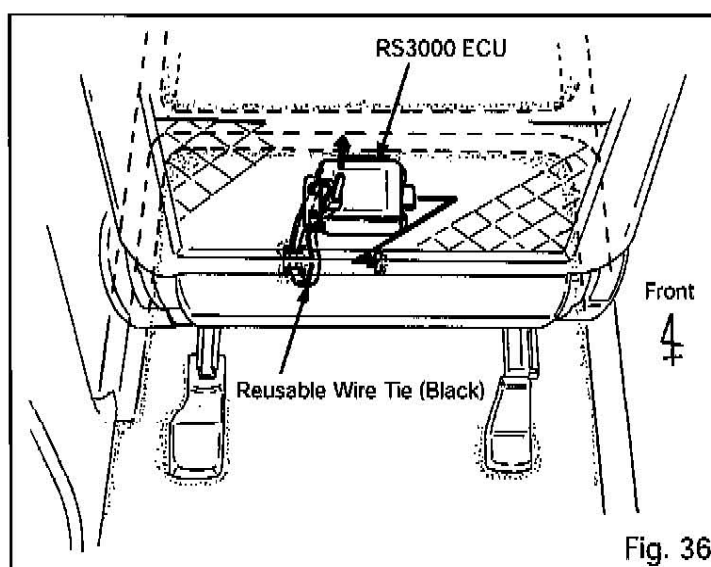

Fig. 36
- (3) A) Insert the ECU's tongue into under the carpet as shown. Fig 36
B) Feed one end of the black reusable wire tie under the carpet and through both holes of the ECU bracket, then secure the ECU to the carpet as shown. Fig 36